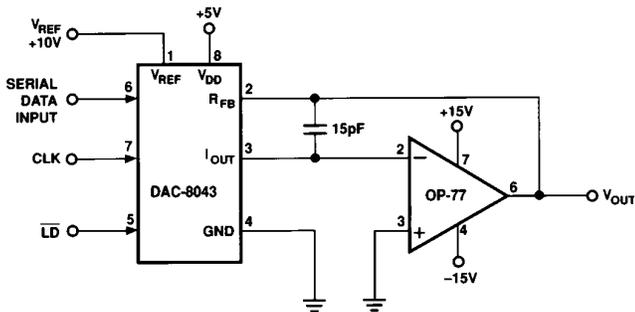

Figure 5. Unipolar Operation with High Accuracy Op Amp (2-Quadrant)
1. Phase compensation (see Figures 5 and 6).
In most applications, linearity depends upon the potential of I_{OUT} and GND (pins 3 and 4) being exactly equal to each other. In most applications, the DAC is connected to an external op amp with its noninverting input tied to ground (see Figures 5 and 6). The amplifier selected should have a low input bias current and low drift over temperature. The amplifier's input offset voltage should be nulled to less than +200 μ V (less than 10% of 1 LSB).
The circuit shown in Figures 5 and 6 may be used with an ac or dc reference voltage. The circuit's output will range between 0 V and approximately $-V_{REF}$ (4095/4096) depending upon the digital input code. The relationship between the digital input and
¹Nominal full scale for the circuits of Figures 5 and 6 is given by
²Nominal LSB magnitude for the circuits of Figures 5 and 6 is given by
The transfer function for the DAC8043 connected in the multi-pling mode as shown in Figures 5, 6 and 7 is: